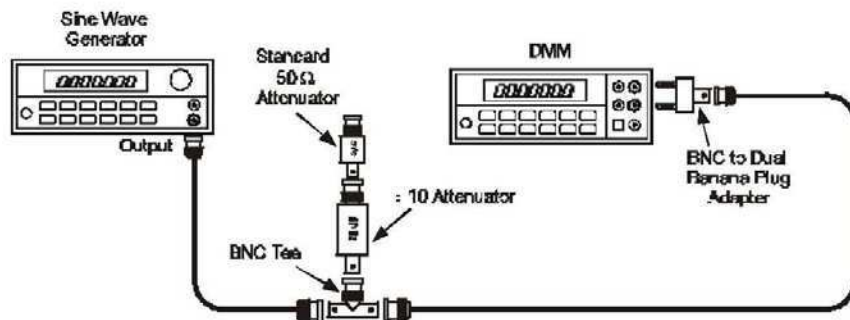

Figure 10, X10 Gain Accuracy Setup.
- Reconnect the banana plug adapter to the DMM and connect another coaxial cable from the banana plug adapter to the other female end of the BNC Tee. See Figure 10.